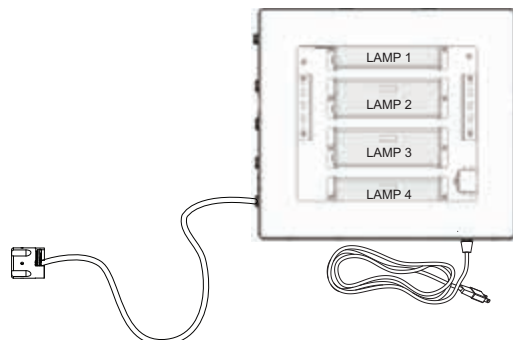
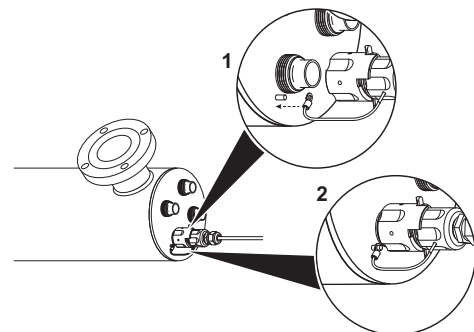

Figure 3 Drip Loop
Figure 4 Ground Cable Connection
- The enclosure should be mounted either above or beside the reactor chamber. Never mount vertically with AC connector at top of controller to prevent moisture from running down cordage and causing a potential fire hazard. Drip loops in all cordage connected to controller is highly recommended. Refer to Figure 3.
4. Mount the Hi-Flo enclosure to the wall, near the reactor chamber. Ideally place the enclosure above the reactor and away from any water connection point, to prevent any water from potentially leaking onto the enclosure by means of a leak at a connection point or a “sweating” system. Make sure you allow for a “drip-loop” Figure 3 on the lamp, sensor and power cord, again, to prevent any water from potentially entering the enclosure. Affix the green ground wires to the grounding lug at the end of the reactor vessel and securely fasten with the lugnut provided Figure 4.